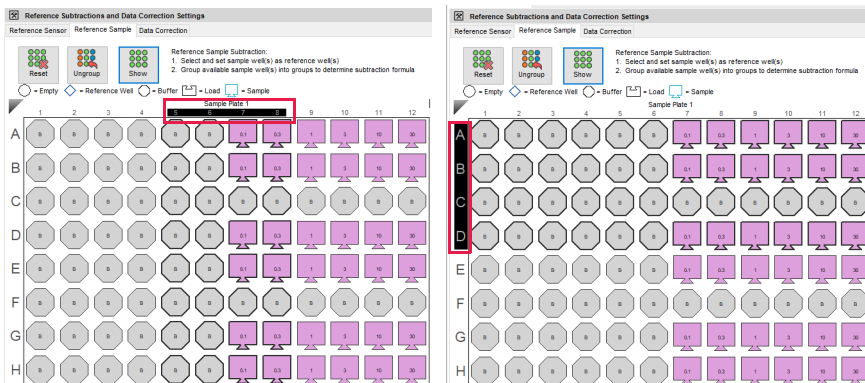

Figure 4-46: Selecting Multiple, Sequential Rows or Columns
- To view data for multiple sequential rows or columns, click the letter of the first row or the number of the first column you want to view in the biosensor tray or sample plate, then hold the mouse and drag it across all the other row/columns you want to view (Figure 4-46).